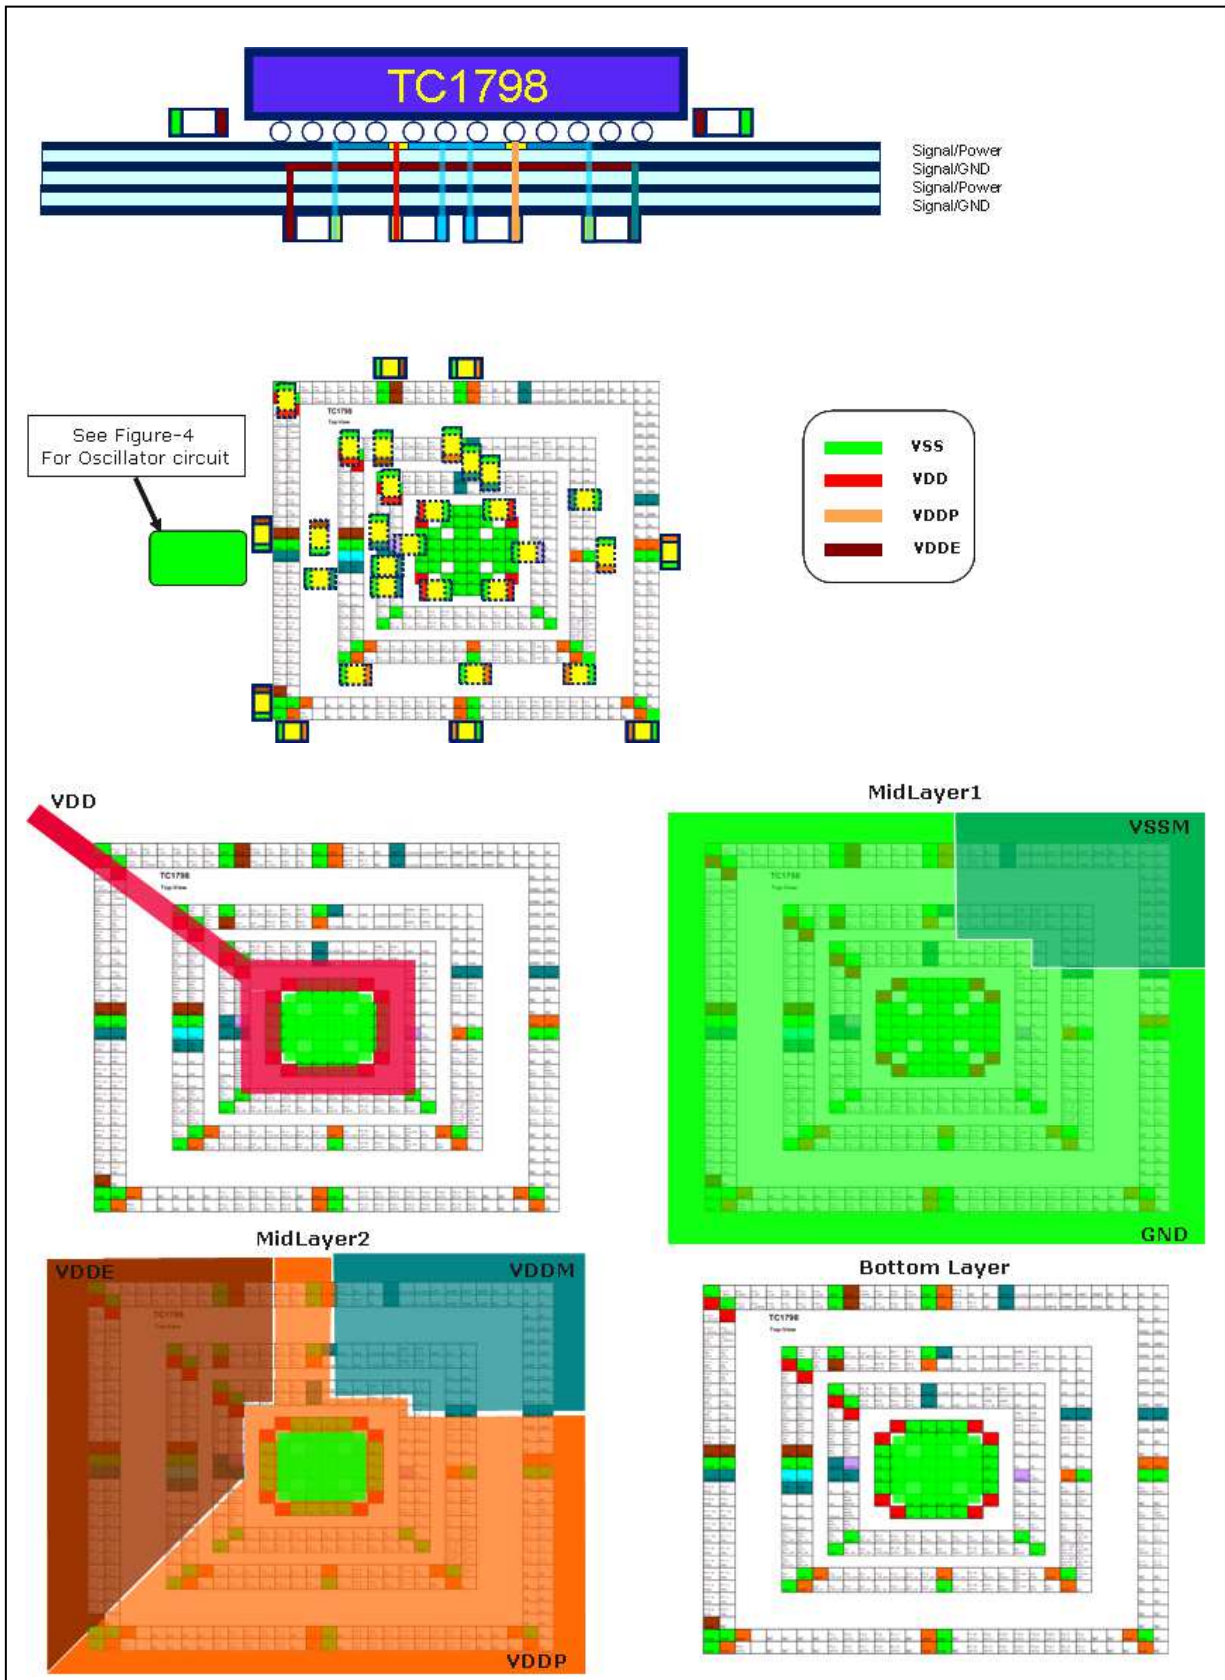

Figure 3 Capacitor Placement Example for Decoupling of TC1798 (BGA-516)
- The three supply domains VDD, VDDP and VDDEBU of TC1798 should be decoupled separately (see decoupling placement example in Figure 3).
In Figure 3 shown examples are based on device power supply concept and implementation. Alternative implementations are also acceptable and must be evaluated within application by customer.